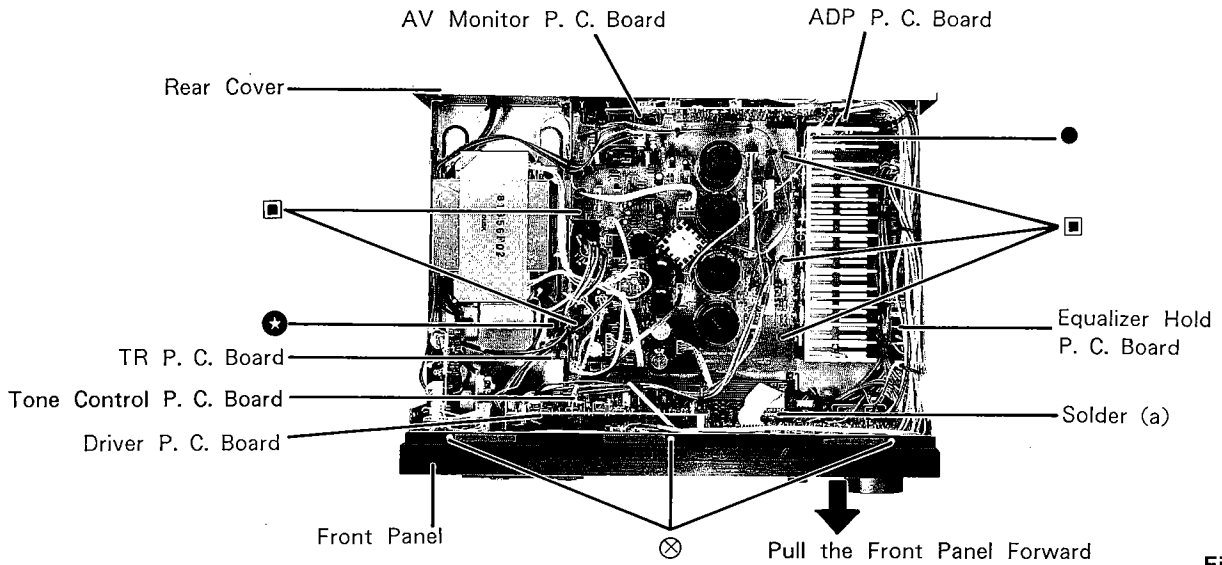

Figure 5
- (2) Remove three screws marked "⊗" as shown in Figure 5.
- (3) The Front Panel can be removed by pulling it forward.
- (1) Remove a screw marked "★" as shown in Figure 5.
(2) Disconnect all wires from the Transistor P. C. Board.
- (1) Remove seven knobs (f) and remove five screws marked "●" as shown in Figure 5 and 8.
- (3) Remove a solder (a) as shown in Figure 5.
- (4) Disconnect all wires from the Function P. C. Board and Balance P. C. Board.
- (2) Remove the Equalizer Hold Panel as shown in Figure 5.
- (3) Disconnect all wires from the Equalizer P. C. Board.